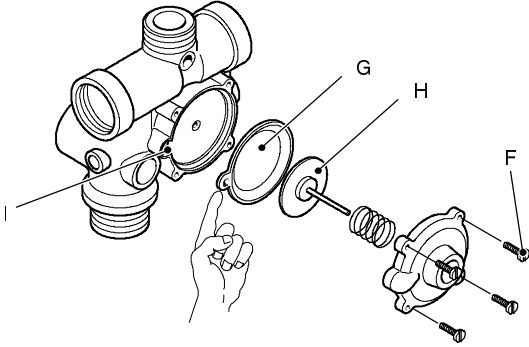

fig. 60
- 3 Unscrew the four screws *F*, open the hydraulic operator and remove the membrane *G* (fig. 60).
Assembling the part, ensure to place the concave side of the membrane towards the actuator plate *H* and the reference hole indicated in the seat *I* (fig. 60).